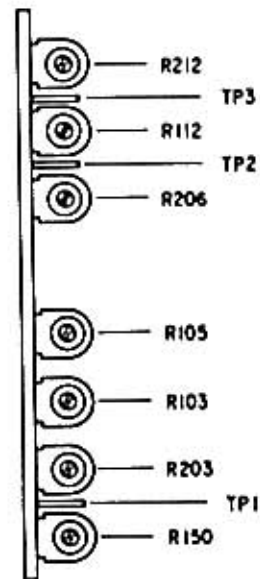
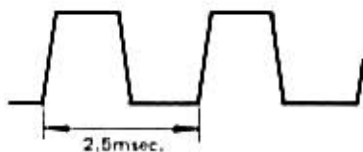

Fig. 1-3-9
Fig. 1-3-10
3. During fast forward or rewind mode, adjust R150 (see Fig. 1-3-9) so that wavelength displayed on the oscilloscope becomes 2.5 msec. (Fig. 1-3-10). Adjustment should be satisfied at any tape winding position.